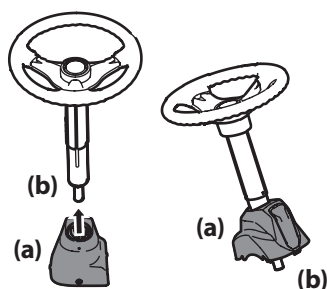

Figure 1
- Slide the pedestal cap (a) onto the steering shaft (b) so that when the steering shaft (b) is installed on the riding mower, the pedestal cap (a) will be upright as shown in Figure 1.